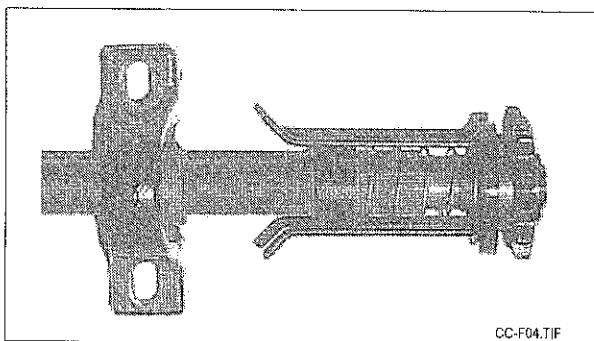

Figure 2.8 - Clutch Engaged - 2135/3000 Series
17. Refer to *Figure 2.8*. After Stationary Calibration is complete **engage** the manual clutch collar by turning the calibration crank until the manual clutch collar is firmly seated over the milled  $1\frac{1}{4}$ " (32 mm) bore sprocket.